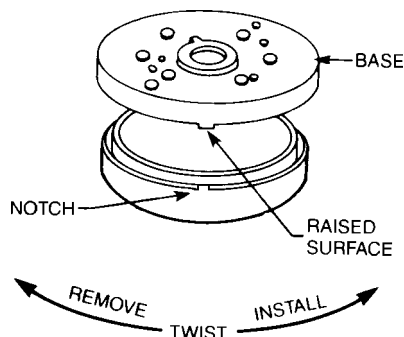

Figure 1
2. To install the DB-ADPT adapter into the DB-3S base, align the notch in the outer flange of the adapter to the raised surface on the outer ring of the base (Refer to Figure 1).